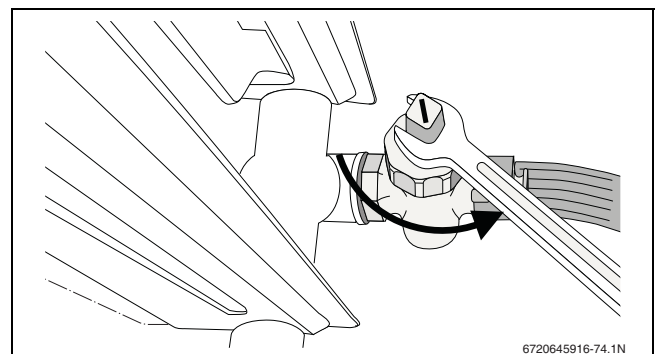

Fig. 77 Draining the heating system (example)
- Drain the heating water at the lowest point of the heating system, using the drain cock or the heating body (→ fig. 77). The (automatic) air vent at the highest point of the heating system/radiator must be open.